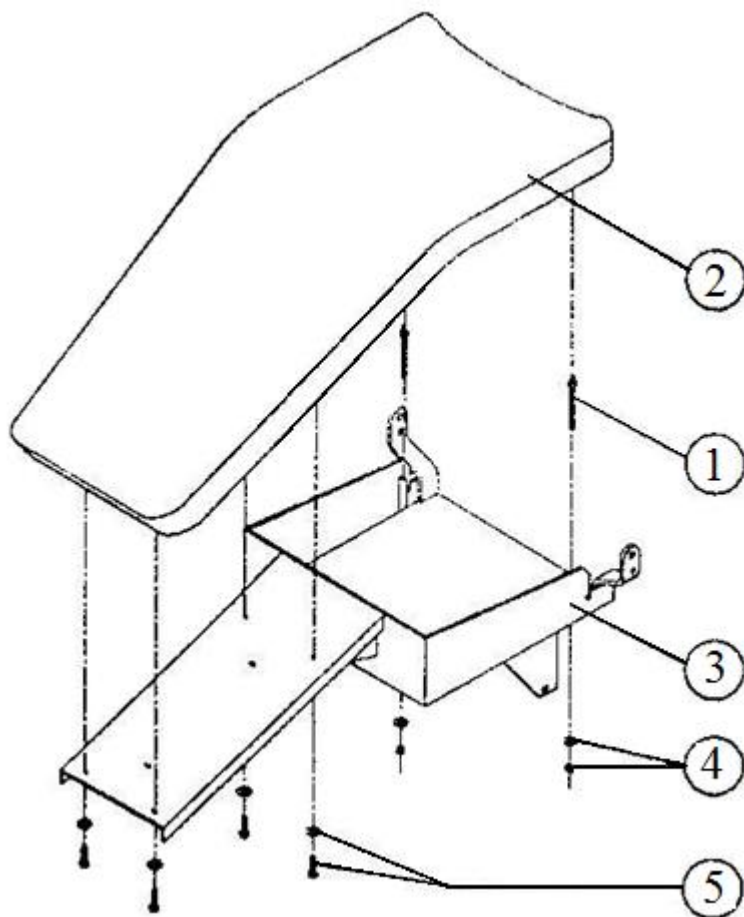

Figure 11
Refer to Figure 11
1. Remove seat cushion. See figure 11.